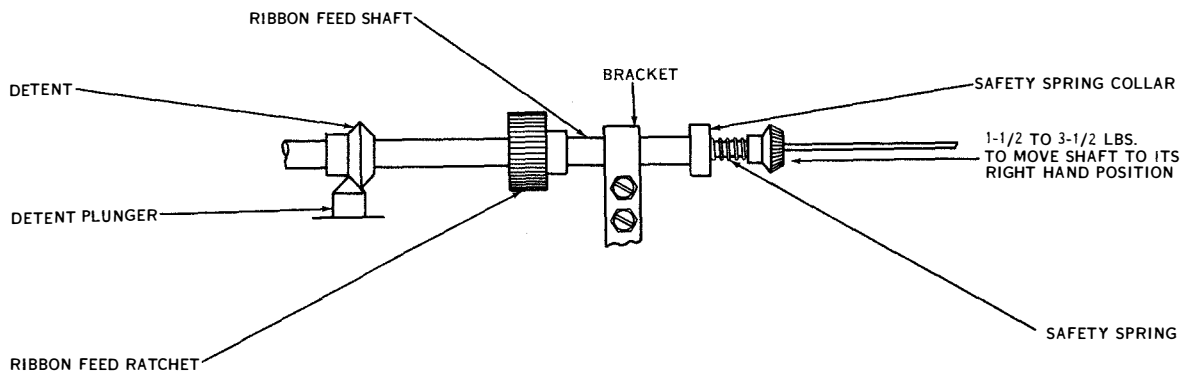

Figure 7-47. Ribbon Feed Shaft Detent Plunger Spring Compression
(41) **RIBBON FEED SHAFT DETENT PLUNGER SPRING COMPRESSION.** (See figure 7-47.)—A tension of 1½ to 3½ pounds should be required to